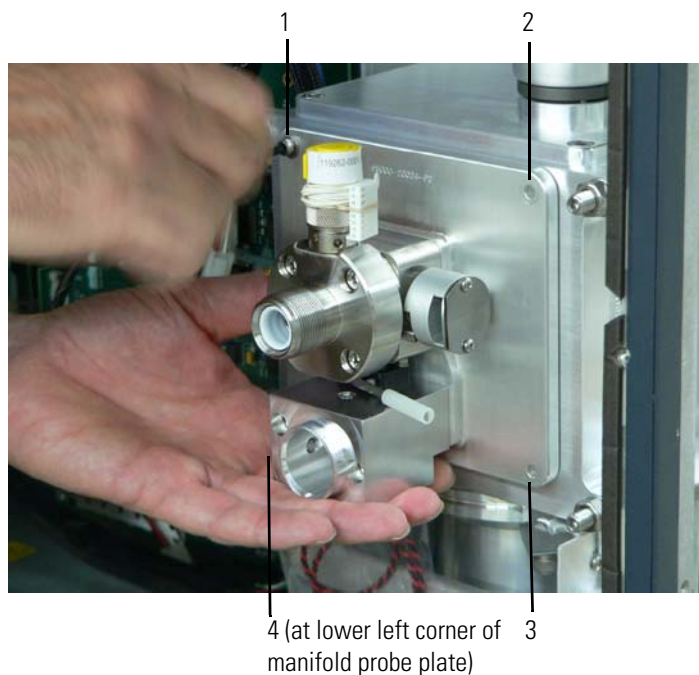

Figure 3-30. Unscrewing the vacuum manifold probe plate
- e. Remove the four screws holding the vacuum manifold probe plate (Figure 3-30 and item 10 in Figure 3-27 on page 3-34). Support the plate with your hand as shown in Figure 3-30. Arrows point to the four hex screw locations (items 1–4).